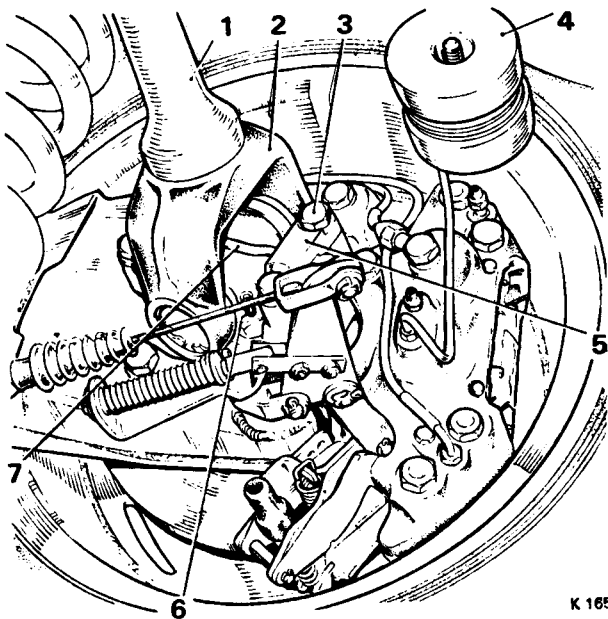

FIG. J14 HARDY SPICER OUTER JOINT
3. Disconnect the outer universal joint from the hub by removing the four setscrews and the two clamps (*see Fig. J14*); it may be necessary to jack up the wheel and rotate the half-shaft to gain access to all the setscrews.